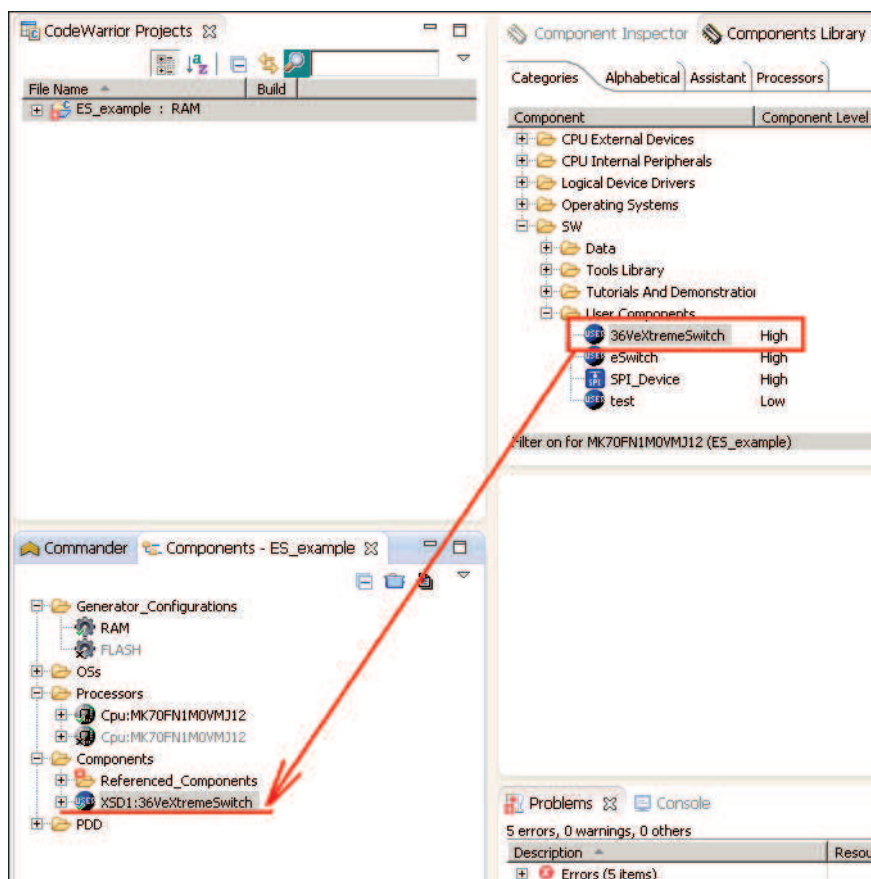

Figure 15. Import 36VeXtremeSwitch
1. Find 36VeXtremeSwitch in the Component Library and Import it into this project (see Figure 15).